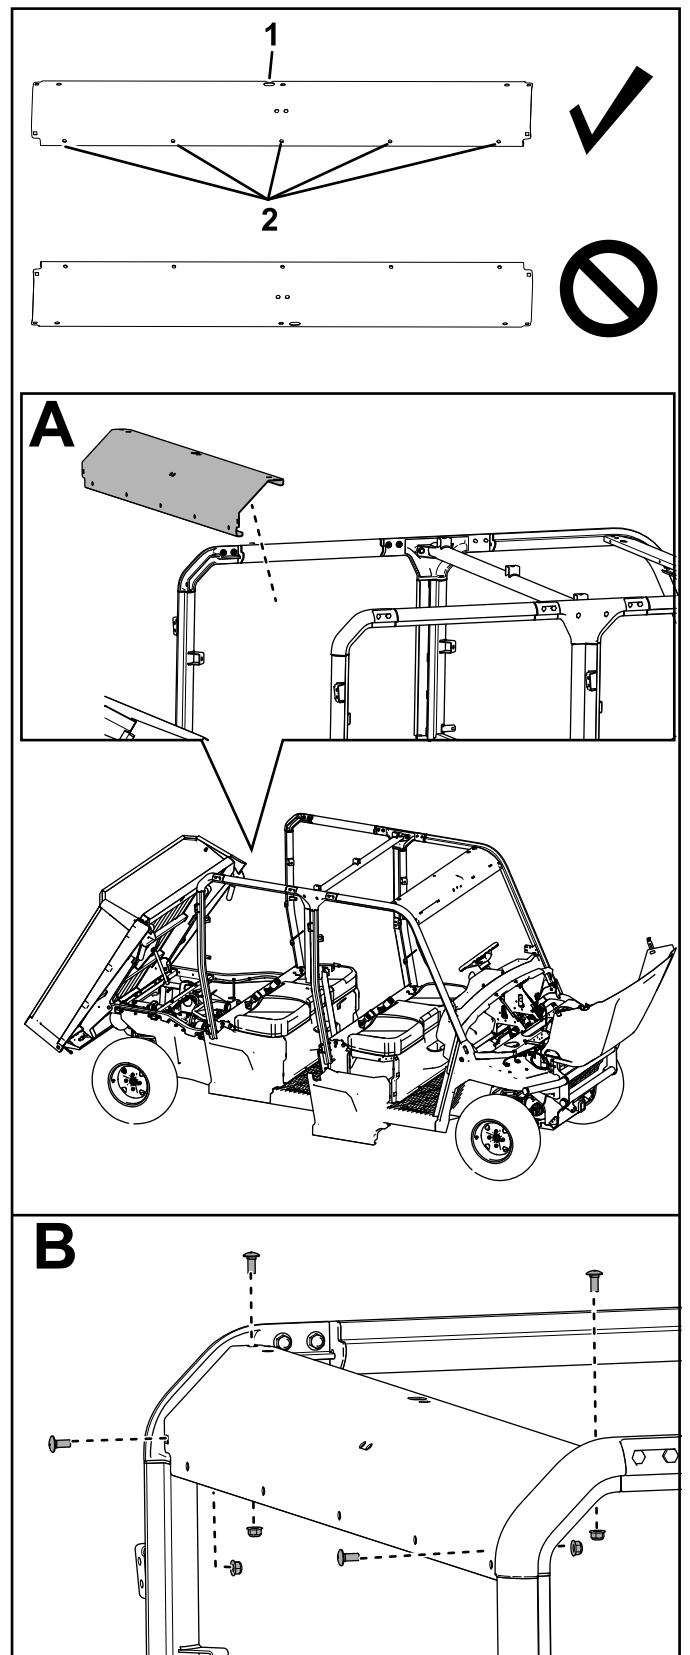

Figure 50
17. Secure the rear crosslink to the rear roll bar assemblies using 4 carriage bolts (5/16 x 3/4 inch) and 4 locknuts (5/16 inch) as shown in Figure 50.
Ensure that you position the crosslink as shown in Figure 50.